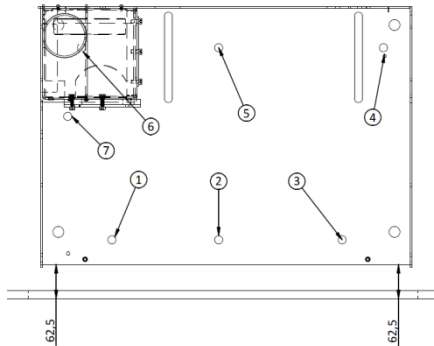

Figure 8 - Fixing base equipment
- As can be seen in Figure 8 the inserts have finishing frames to cover bigger holes, giving greater versatility to the insert. There are two different widths, one of 44 mm and one of 74 mm to finish the equipment's installation (see point 7.7).
- As can be seen in Figure 8, a distance of 62,5 mm from the base to the front of the wall must be left (it must be perfectly parallel).